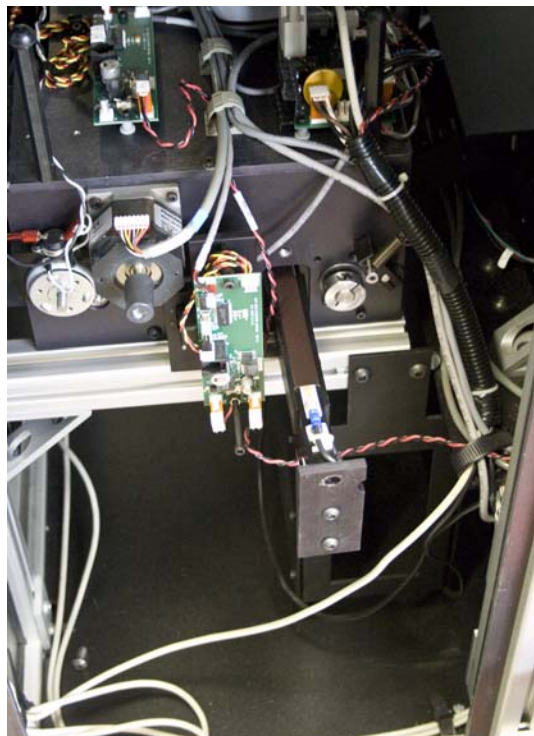

Figure 7. Slide the Heater Welder Assembly out the blue side of the Cut Weld Assembly.
9. Slide the Heater Welder Assembly through the opening in the back of the Cut Weld Assembly. Figure 7.